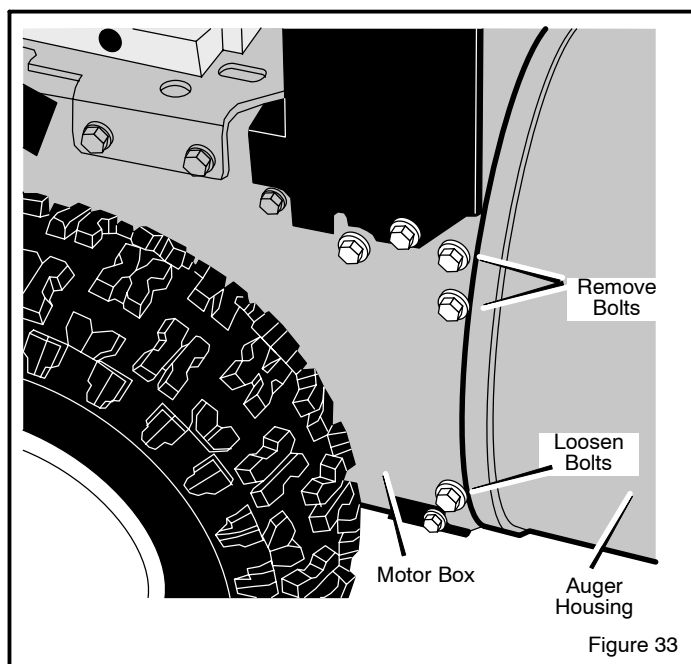

Figure 33
8. Remove the top four **bolts** that hold together the **auger housing** and the **motor box**. Loosen the bottom two **bolts**. The **auger housing** and the **motor box** can now be split apart for removal of the belt (see Figure 33).